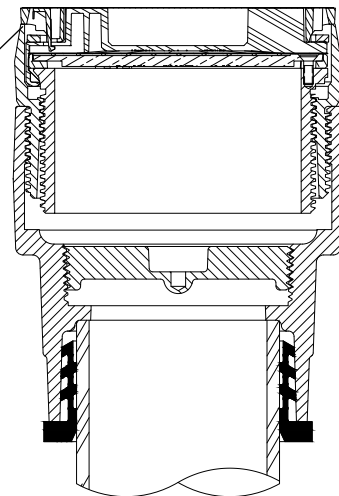

Fig. 3
3. Adjust rough-in cover assembly so the top of the rough-in cover is at the finish floor grade. See Fig. 3